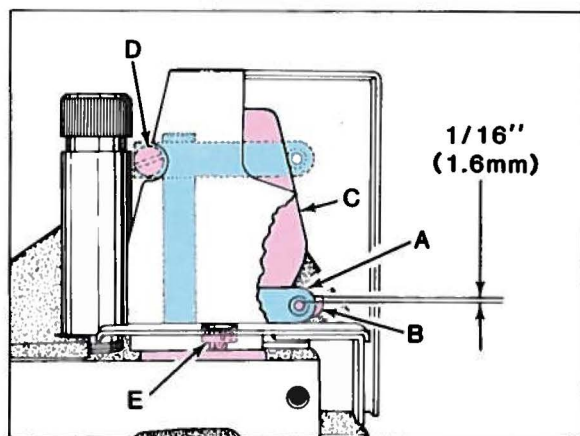

Fig. 22
Needle bar eyelet (A, Fig. 22) should be set with its eyelets 1/16 inch (1.6mm) below strike-off (B) on needle thread cam (C) as shown in Fig. 22, with needle bar at BOTTOM of stroke. Adjustments can be made by bringing needle bar up, loosen screw (D) slightly, bring needle bar down to BOTTOM of stroke, reposition eyelet (A) as required and bring needle bar back up to tighten screw (D).